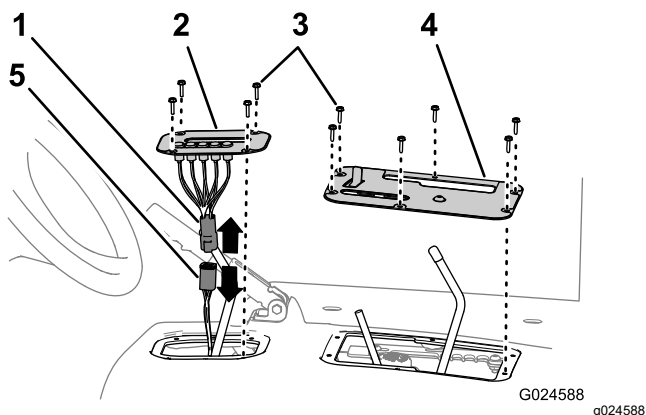

Figure 5
2. Remove the 4 hex-head screws securing the shift-indicator cover to the seat shroud (Figure 5).
3. Lift the shift indicator up, disconnect the indicator connector from the machine harness connector, and remove the indicator cover from the machine (Figure 5).
4. Remove the 6 hex-head screws securing the control cover to the seat shroud, and remove the control cover (Figure 5).